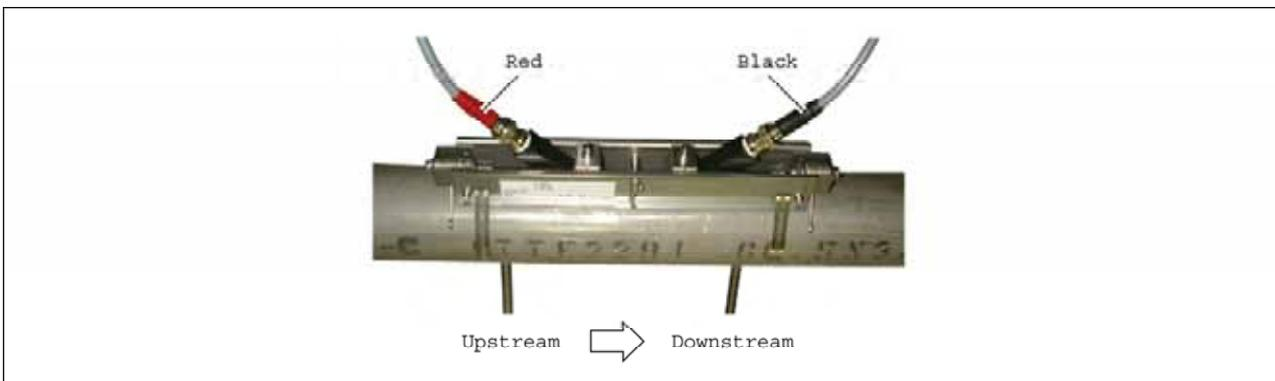

Fig. 3-17
- (4) Connect the signal lines with BNC connectors of the sensor units. At this time, do not mistake the upstream and downstream sides for each other. Connect the red BNC connector upstream, and the black BNC connector downstream (see Fig. 3-17).